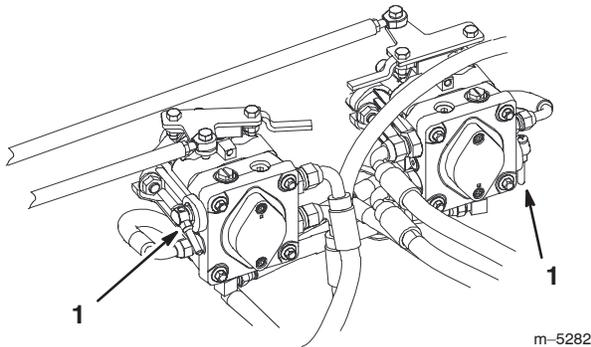

Figure 21
2. Rotate pump by-pass valves counterclockwise 2 turns. This allows hydraulic fluid to by-pass the pump enabling the wheels to turn freely (Fig. 21).
1. Turn the by-pass valves clockwise until they are tight. Do not over tighten (Fig. 21).